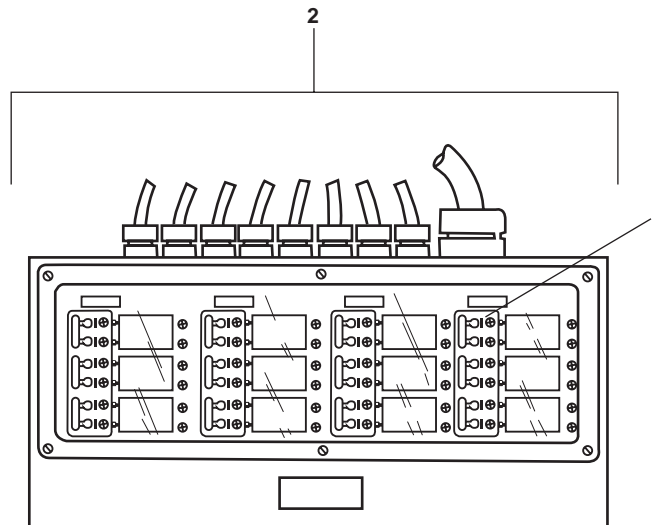

Figure 1. Machinery DC Control Distribution Panel
1. Set to ON the CRANE LOAD circuit breaker (figure 1, item 1) on the machinery DC control distribution panel (figure 1, item 2) in the engine room.